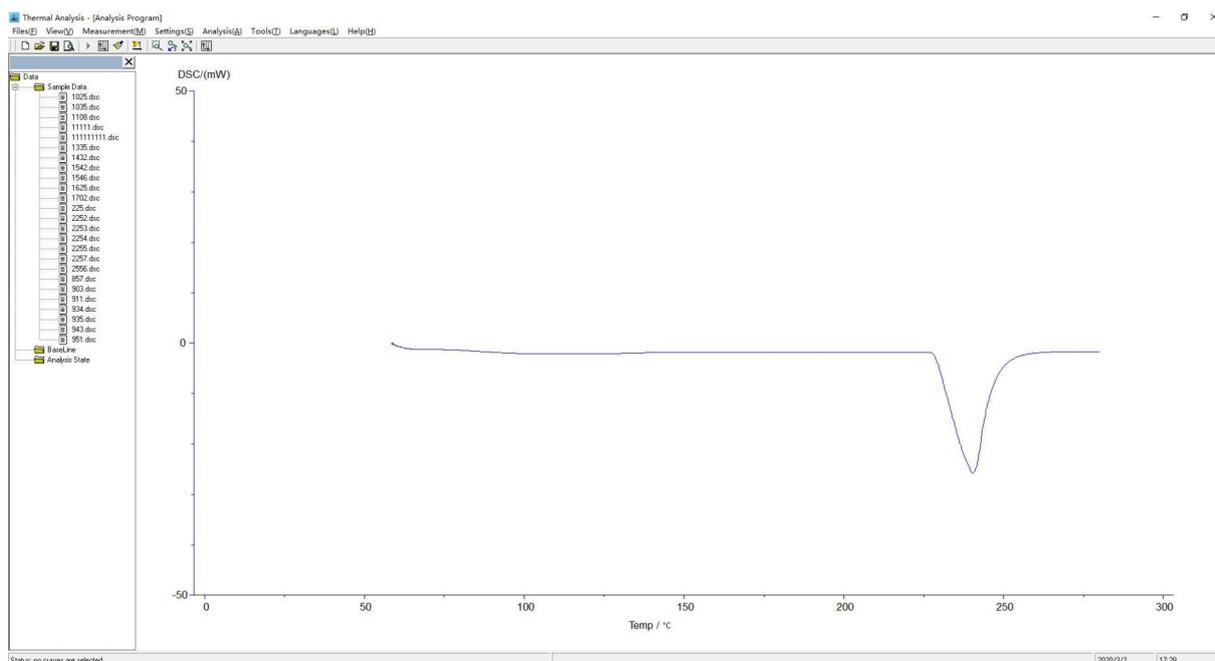

图 1-6
9. The actual melting point of tin is $231.9\text{ }^{\circ}\text{C}$, experiment measured T_{eo} is not within the range of $231.9 \pm 1\text{ }^{\circ}\text{C}$, click on the left bottom corner, click , the interface shown in Figure 1.6, enter 231.9 in 【 Standard sample measured melting point 】 and enter actual measured melting point value in 【 Actual melting point 】 , press 【 OK 】 , then click  , turn off the instrument calibration interface.